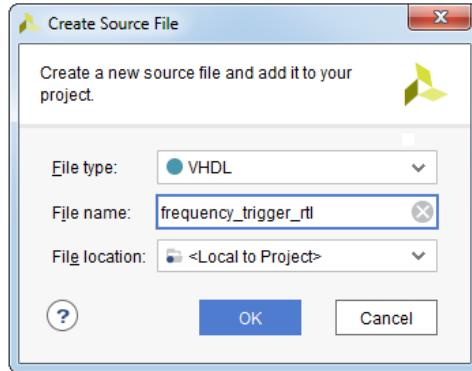

Figure 2.15: Create Source File dialog box
5. In the Create Source File dialog box, fill the file type, file name and file location on the following way, see Figure 2.15: